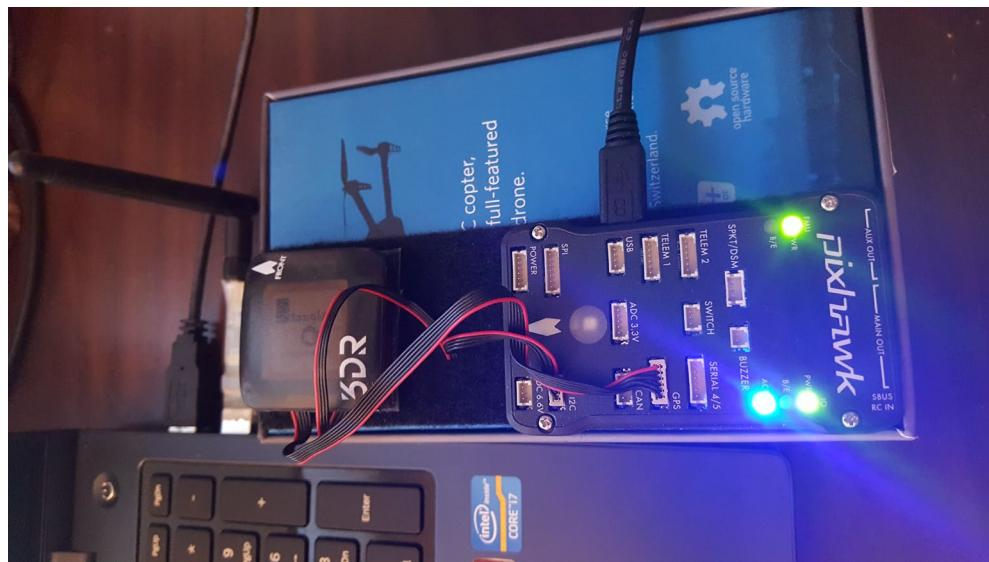

Figure 15 - Prototype Pixhawk Ground Station Navigation System
1. If you are going to be using “Follow Me” mode where the orientation of the truck or boat is considered, you will need to have a Pixhawk connected to the laptop as shown in Figure 15.